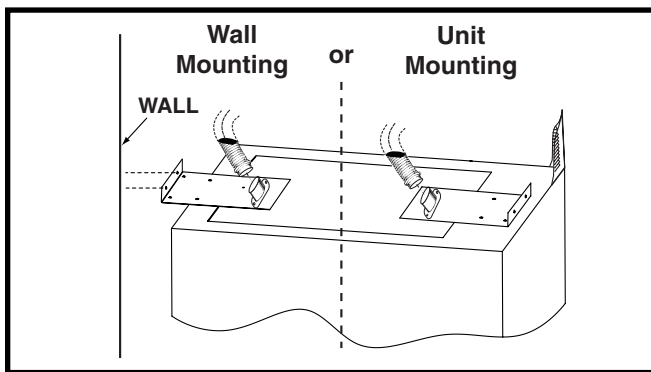

Figure 3. Downflow Electric Furnace (with Heat Only)
- **Electric Furnace, Heating only, no coil** - The bracket may also be mounted directly to the front of the electric furnace. See Figure 3 (page 3). In wall mounting applications, the bracket should be positioned at the rear of the unit with the entire bracket opening located over the return air inlet.